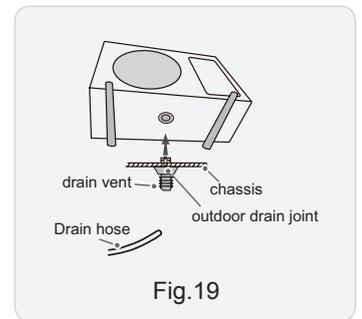

Fig.19
- (1) Connect the outdoor drain joint into the hole on the chassis. (As show in Fig.19)
- (2) Connect the drain hose into the drain vent.